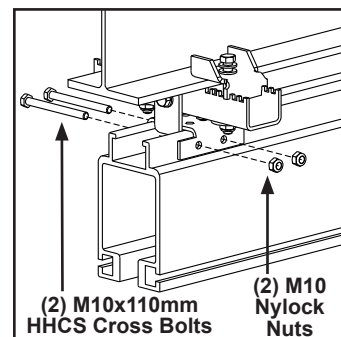

Figure 3-29
- Step 3. Install two (2) M10 x 110 mm HHCS with M10 nylock nuts. **Tighten until bolts are snug + 1/4 turn**. Do not over tighten. Over tightening could cause bracket to bend. See Figure 3-29